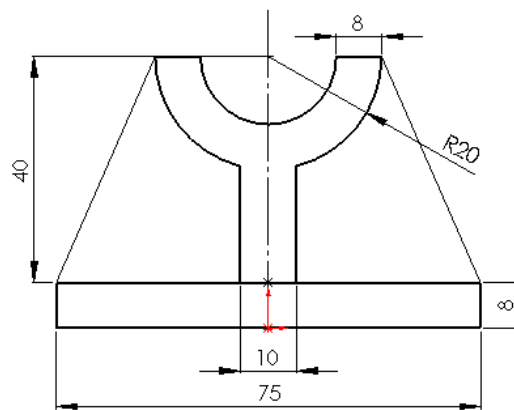

Figure 5-70 Fully defined sketch for creating the model
- a. Create the sketch on the default plane and apply the required relations and dimensions, refer to Figure 5-70.
3. Add the required relations and dimensions to the sketch as shown in Figure 5-70.